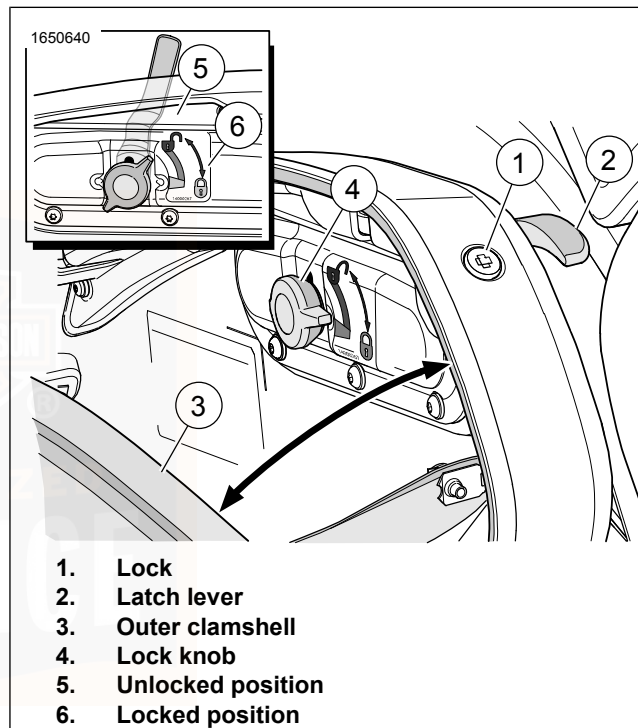
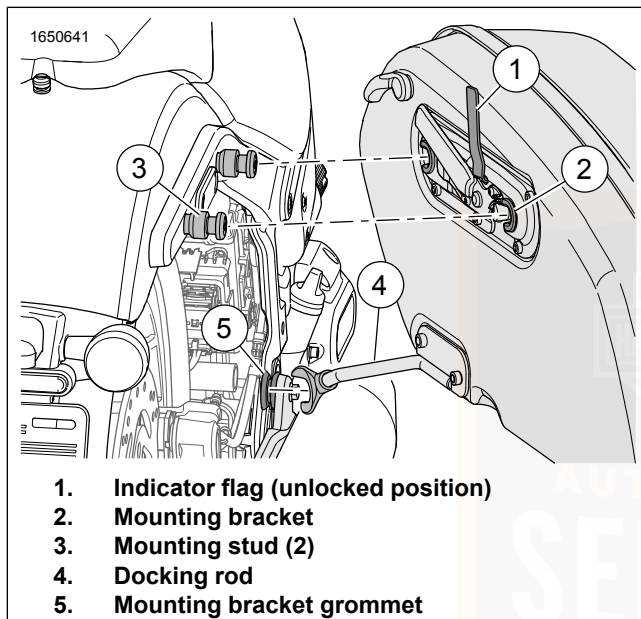
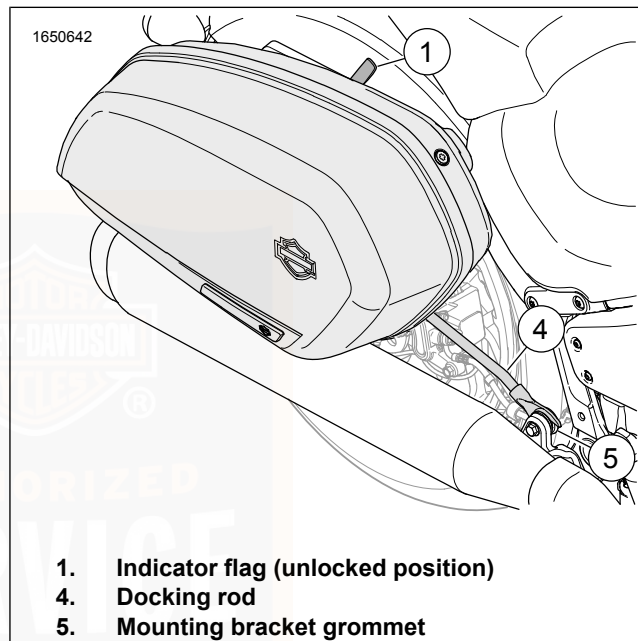

Figure 47. Saddlebag Lock Knob
Figure 48. Saddlebag Mounting Bracket
Figure 49. Saddlebag Docking Rod
1. See Figure 47. Unlock saddlebag.
- a. Insert key into lock (1) and rotate one-quarter turn counterclockwise.
2. Lift latch lever (2).
3. Open saddlebag by pulling outer clamshell (3) away from inner clamshell.
1. See Figure 47. Close saddlebag.
a. Close clamshell by lifting outer clamshell (3).
b. While holding saddlebag outer clamshell closed lower latch lever (2).
a. Insert key into lock (1) and rotate one-quarter turn clockwise.
1. See Figure 47. Open saddlebag outer clamshell (3).
2. Pull out and turn lock knob (4) to the unlocked position (5).
3. Close saddlebag outer clamshell and lower latch lever (2).
4. See Figure 49. Slide saddlebag rearward to disengage the saddlebag docking rod (4) from the mounting bracket grommet (5).
3. See Figure 48 and Figure 49. Place saddlebag mounting bracket (2) on mounting studs (3) while aligning the saddlebag docking rod (4) with the mounting bracket grommet (5). Slide saddlebag completely forward.